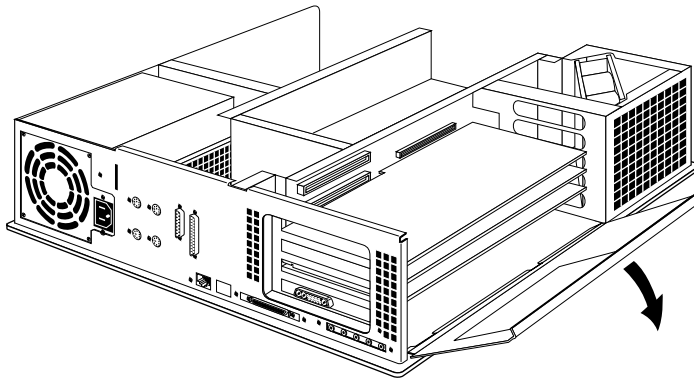

Figure 4-4 Opening the Metal Panel in Front of the EISA Slots
3. Open the metal panel located in front of the EISA slots by pulling up on the door and lowering it, as shown in Figure 4-4.